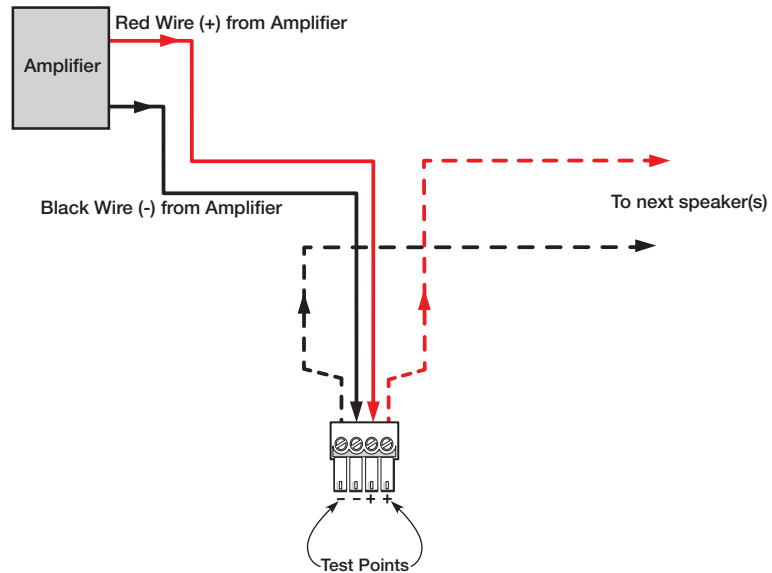

Figure 39. Impedance Test Points — Loop-through Configuration
- The impedance of the speakers downstream of the one being tested can be measured while the system is on by connecting to the outer (LOOP) terminals of the captive screw connector, as shown in figure 39.